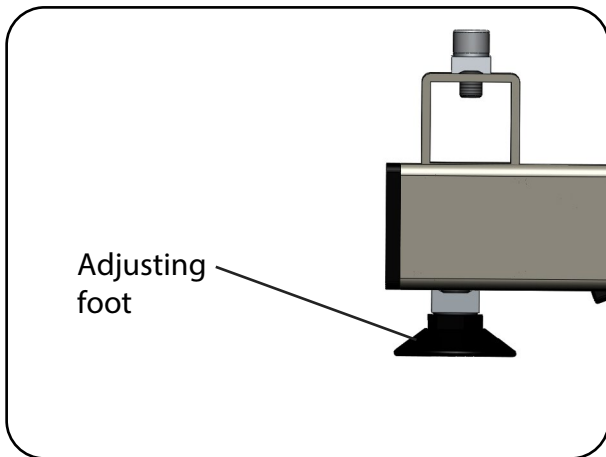

Fig. 6.8.03 - aks B4c Standard
5. Unscrew the four adjusting feet from the lower frame (Fig. 6.8.03).